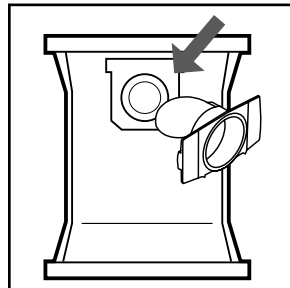

FIGURE 19
27. Position the inlet deflector with the opening facing the left or the right side of the filter bag. Slide the filter bag collar over the inlet deflector, matching the notches of the bag collar to the tabs on the inlet deflector. Bag will only fit properly one way. (**FIGURE 19**)